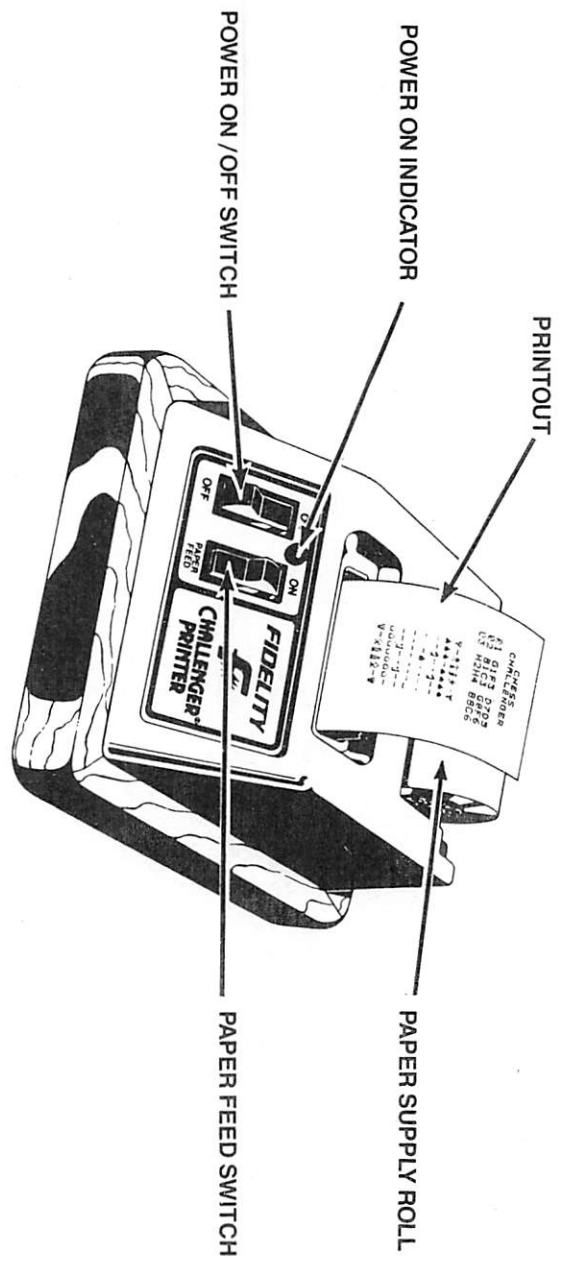

Figure 1. Fidelity Challenger Printer
3. Place the ON-OFF switch on the Printer in the ON position (Figure 1). The Power On Indicator on the Printer front panel will light (Figure 1).
4. To advance paper, press and hold the PAPER FEED switch in the ON position until desired length of paper is advanced (Figure 1).